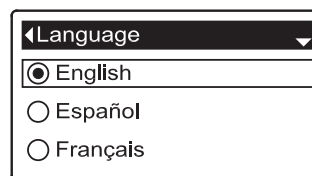

FIG. 109
5. Press the SELECT (O) button to display the Language menu (See Figure 109).
6. If the desired language already has a black dot next to it (See Figure 109), go to Step 7. Otherwise, press the DOWN (▼) or UP (▲) buttons to scroll to the desired language, then press SELECT (O) to choose it. The choices are: English, Spanish, French, Italian, German, Dutch, Polish, Russian, Hungarian, Turkish, Lithuanian, Greek, Romanian, Czech, Slovak, Bulgarian, Serbian or Croatian.